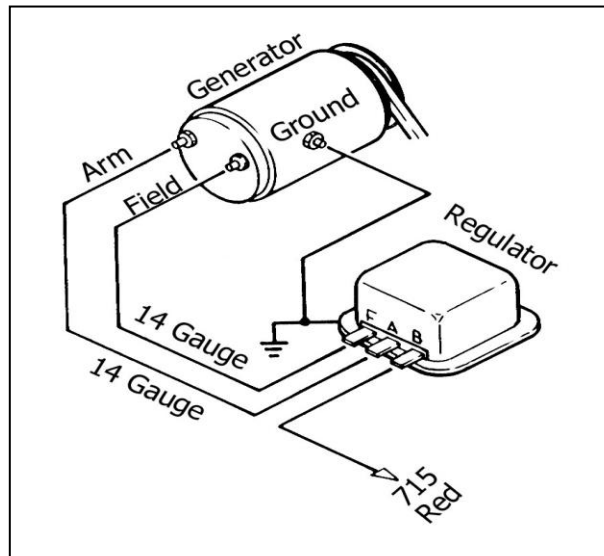

Figure 8.1 Generator Charging System
8.1.1 Generator Charging System. See Figure 8.1.
- A.** Connect Generator ARMATURE terminal (A) to Voltage Regulator terminal A. Connect Generator FIELD terminal (F) to Voltage Regulator terminal F. Use 14-gauge wire (color optional).